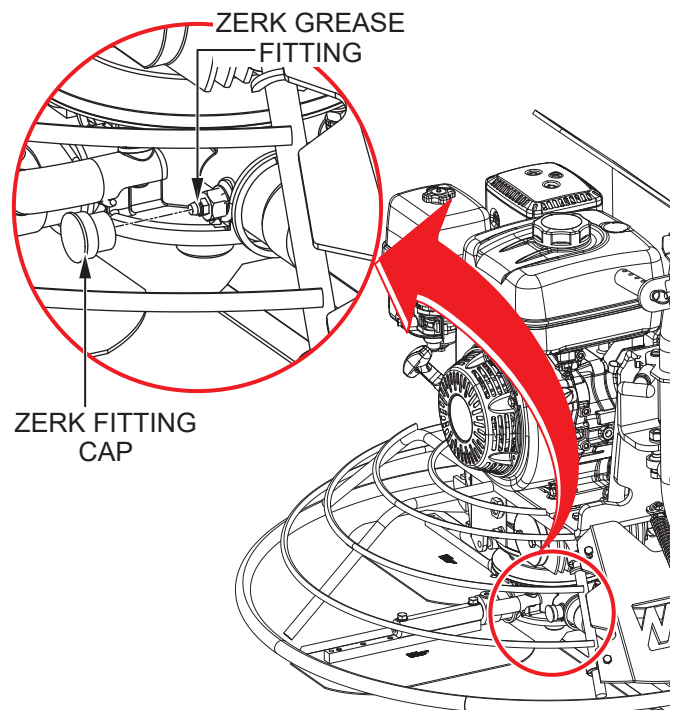

Figure 66. Spider Lubrication
1. Locate one of the Zerk grease fittings on the spider assembly (Figure 66). Remove the Zerk fitting cap and set it aside.